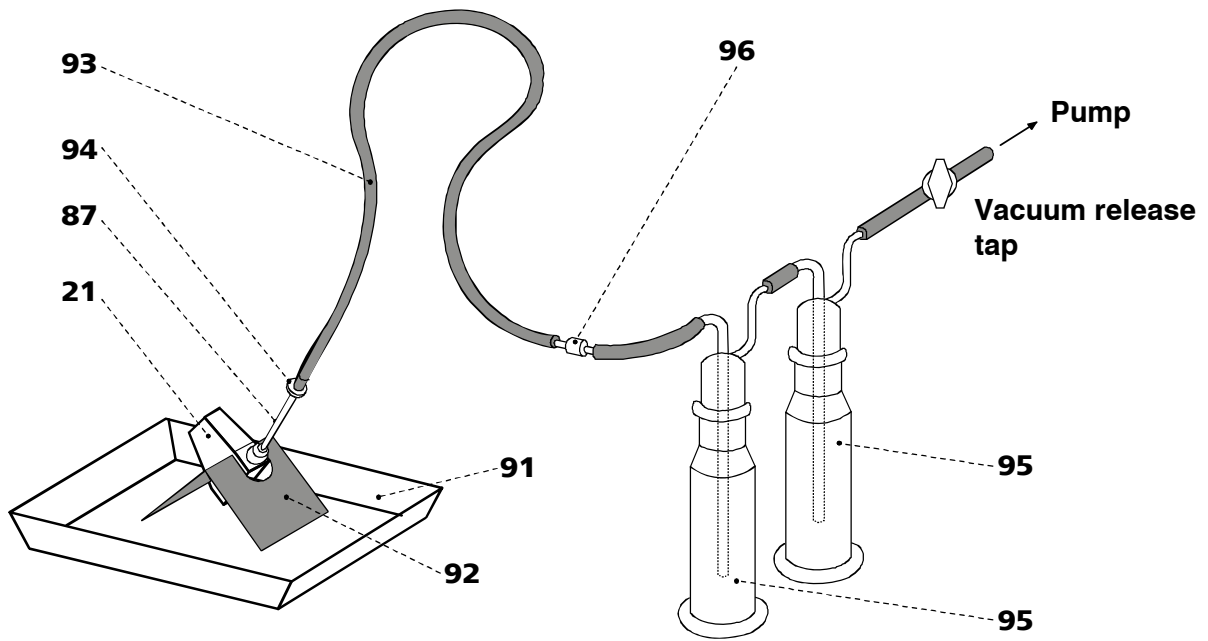

Fig. 10: Setting up the filling station
- All actions involving the electrode and the mercury vessels must be performed in or over the drip pan **91** supplied (see *Fig. 10*).
- Connect filling tubing with tubing coupling **96** to the two gas wash bottles **95** and the vacuum pump (see *Fig. 10*).
- Connect filling tubing **93** with the tubing coupling **96** to the two gas wash bottles **95** and the vacuum pump (see *Fig. 10*).